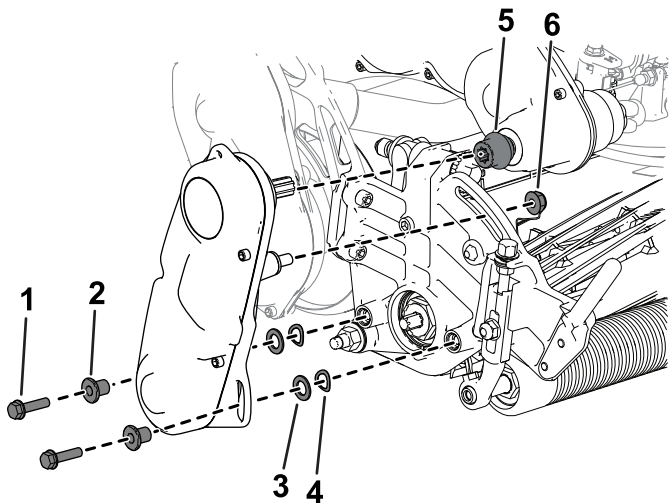

Figure 42
6. Use the previously removed socket-head screws, washers, and spacers to secure the reel-drive assembly to the cutting-unit side plate (Figure 42).
Ensure that the reel-drive-assembly driveshaft is installed to the transmission-driveshaft coupler (Figure 42).